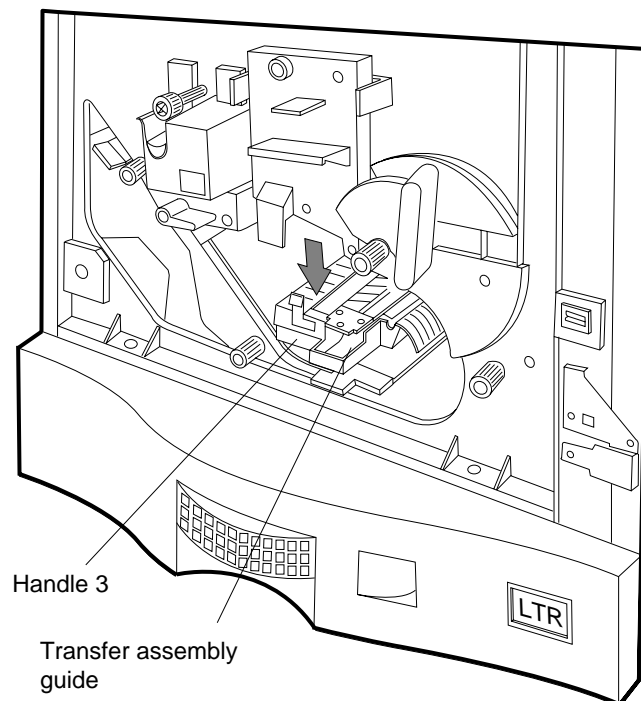

Figure A-9 Lowering the Transfer Assembly Guide
2. While pulling out and down on handle 3, lower the transfer assembly guide as shown in Figure A-9.